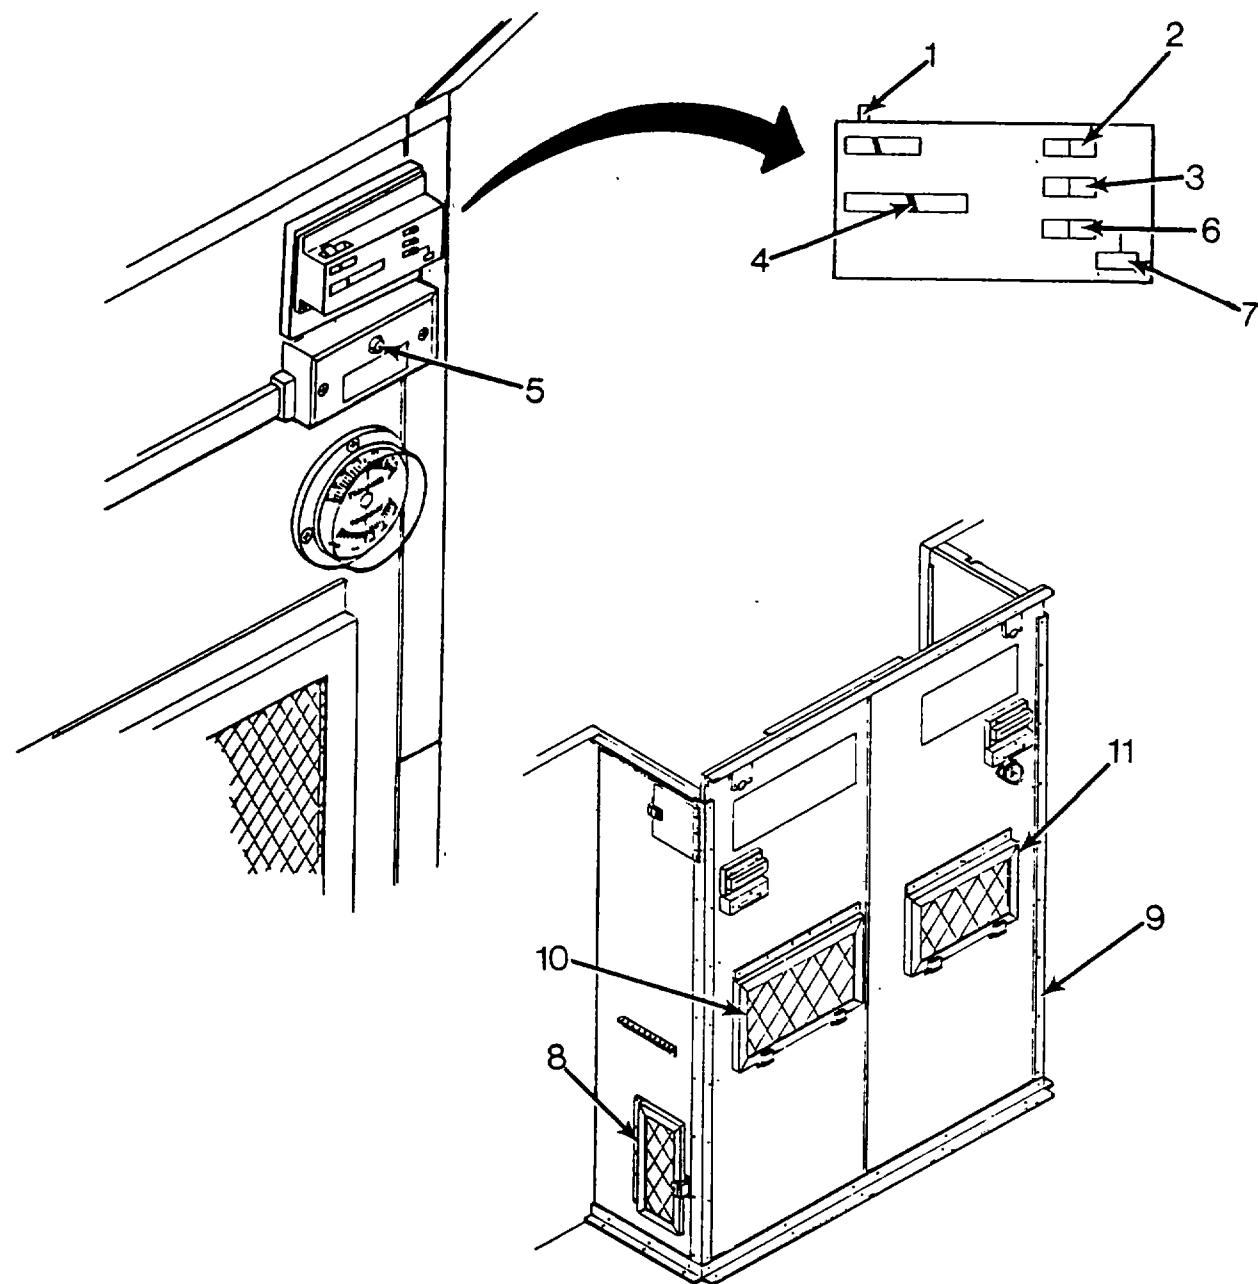

Figure 2-6. Air Conditioner (AC) Units, 24,000 BTUH and 36,000 BTUH Controls and Indicators
2-7. AIR CONDITIONER (AC) UNITS (24,000 BTUH AND 36,000 BTUH). Each air conditioner has a separate thermostat for controlling temperature; however, the controls and indicators are the same for both. Refer to Figure 2-6 for location of operator's controls and indicators.
- a. Temperature Set Point Lever (1) - Allows the operator to select the cooling or heating temperature point. The AC units will cycle on and off automatically as the shelter temperature fluctuates about the selected temperature.